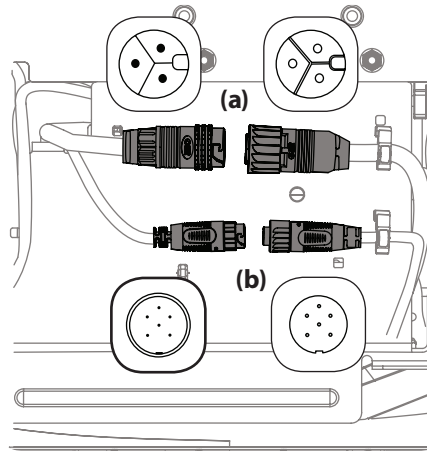

Figure 4-7
4. Disconnect the deck motor(s) from the adapters on the underside of the tractor. Rotate the collar on the larger connector (a) counterclockwise and carefully pull apart. Repeat the procedure with the smaller connector (b). See Figure 4-7.
6. Reconnect the deck motors on the underside of the tractor. Always connect the larger connector first and then the smaller connector. See Figure 4-7.